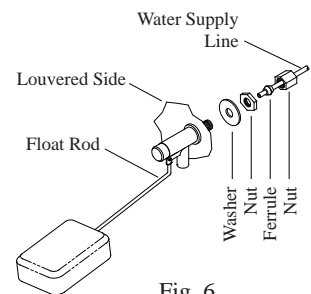

Fig. 6
- **Install float valve.** Install valve in the provided hole in the louvered side (Fig. 6) and attach water supply line.
- **Fill pan.** Allow water to fill to within 1" of top of pan and adjust float to maintain this water level. This can be accomplished by bending the float rod (Fig. 6).